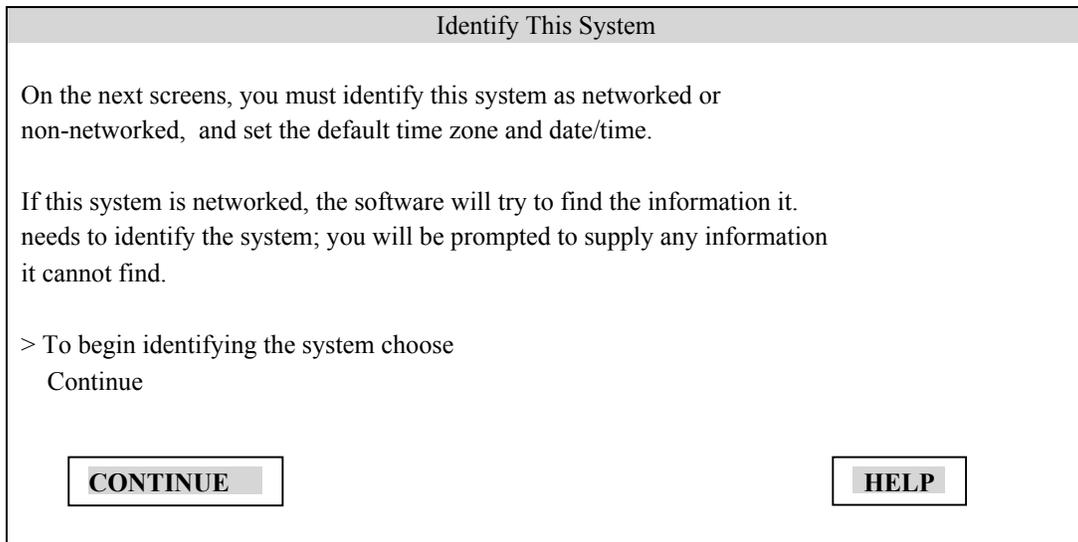

Figure 3-24 Identify This System Screen
19. A window titled “Identify This System” (Figure 3-24) will be displayed.